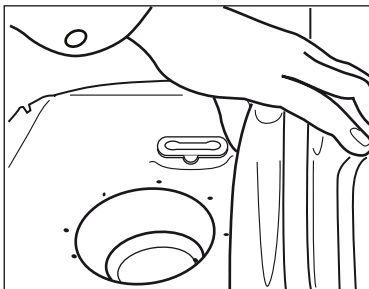

Figure 19.19
- Lift the vessel out of boiler from the gap over the chasis (Figure 19.19) and fit the replacement vessel to the boiler in reverse order to removal, ensuring that sealing washer is fitted to pipe connection before tightening, replace the washer if necessary.